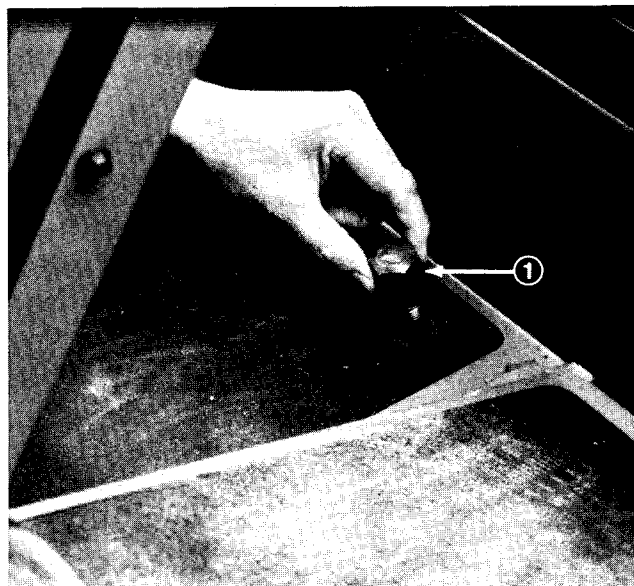

Figure 52
2. Unscrew and remove the dipstick cap from the filler neck and add the correct oil so the oil level is to the mark on the dipstick (Fig. 52). Install the dipstick cap and tighten finger tight.